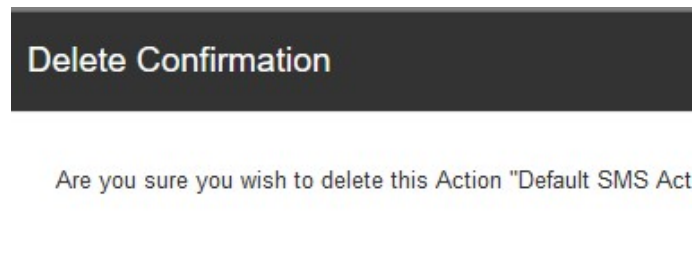

Figure 16-20 Delete Confirmation dialog box
1. On the **Actions** page, click  in the row of the action to be deleted. In the pop-up shortcut menu, select **Delete**. The page as shown in Figure 16-20 is displayed.